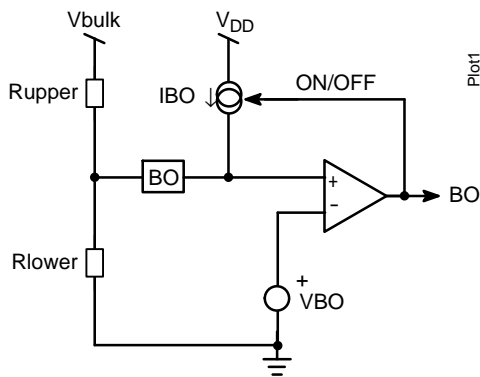

Figure 30a. The internal brown-out configuration with an offset current source.
Figure 30a, offers a way to observe the high-voltage (HV) rail. A resistive divider made of R_{upper} and R_{lower} , brings a portion of the HV rail on pin 3. Below the turn-on level, the 10 μA current source IBO is off. Therefore, the turn-on level solely depends on the division ratio brought by the resistive divider.